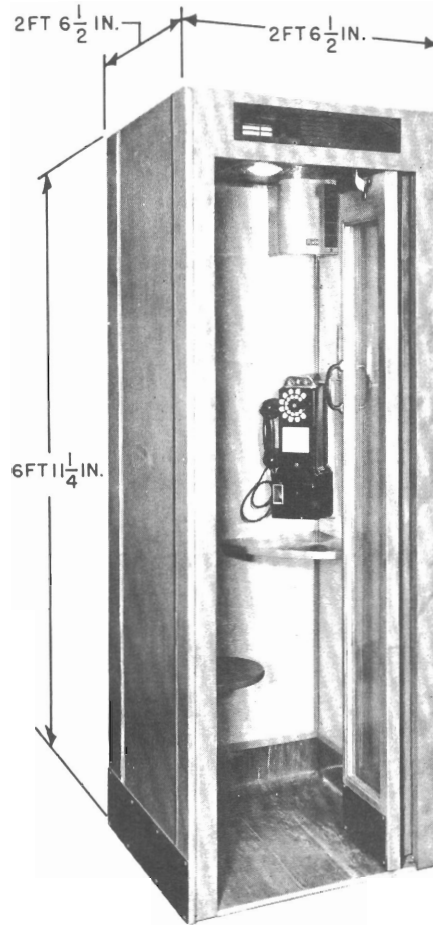

Fig. 2 — 11-type Booth
4.01 The 10- and 11-type booths are similar except that the 11-type is equipped with a seat (Fig. 2). The shelf and backboard, therefore, are mounted lower in the 11-type than they are in the 10-type booth.